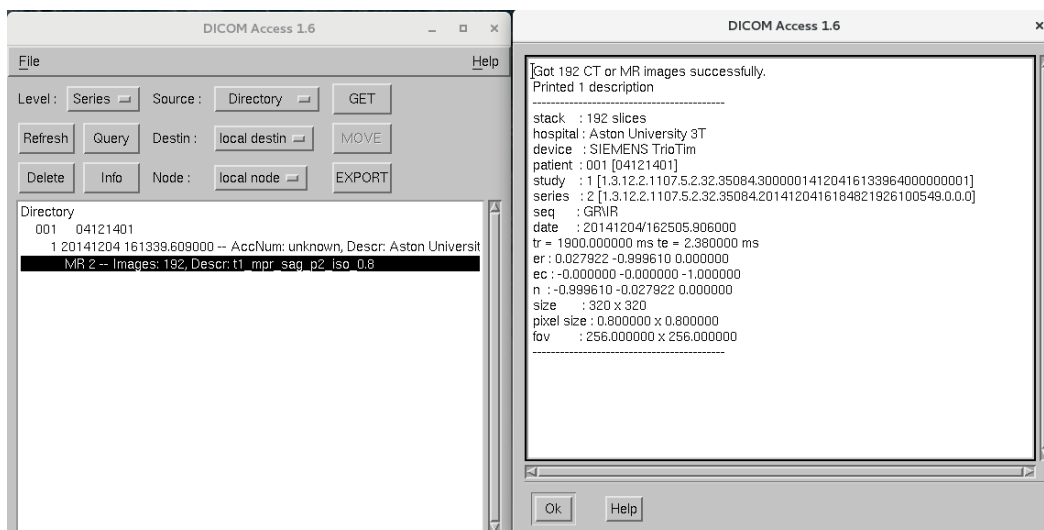

Figure 6: Importing DICOM data from the source directory.
- Double-click the series which contains the 3D-volume T1 images of the whole head. If the slices are read without errors, you can see information of the slices (Figure 6).